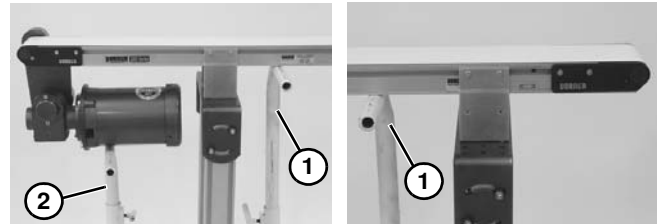

Figure 66
1. Ensure temporary support stands (**Figure 66, item 1**) are placed at both ends of the conveyor. Place an additional support stand under the drive motor (**Figure 66, item 2**), if equipped. See WARNING.